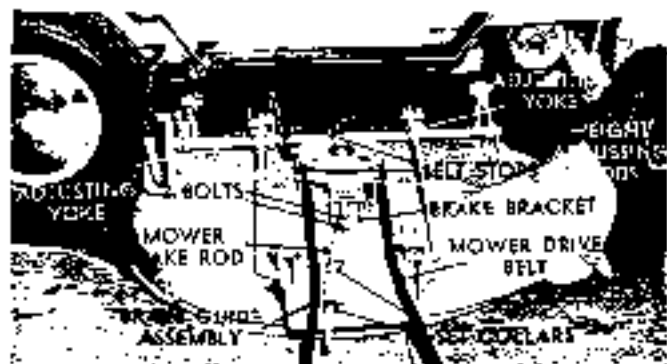

FIG. 51
To attach the mower to the tractor, first park the tractor on level ground. Move the P.T.O. Lever to the "Disengaged" (rear) position. Put the mower down on the right side of the tractor so that it faces perpendicularly away from the tractor (Fig. 51). Turn the front wheels of the tractor hard to the left to give a clear access to the underneath. Push the mower straight in under the tractor to the point where it can be turned 90° to face in the same direction as the tractor (Figure 52).
To raise the blade tip at the front, turn the Yokes on the Adjusting Rods clockwise (counterclockwise to lower) (Fig 51).
Position the brake so that the face touches both tips of pulley, then tighten the two (2) bolts holding the Brake Bracket to the Mower Housing (Fig. 51).